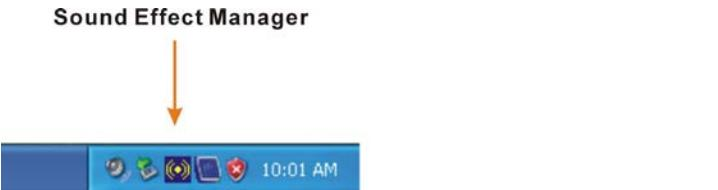

Figure E-2: Sound Effect Manager Icon [Task Bar]
- The Sound Effect Manager icon in the Notification Area of the system task bar (see **Figure E-2**), or